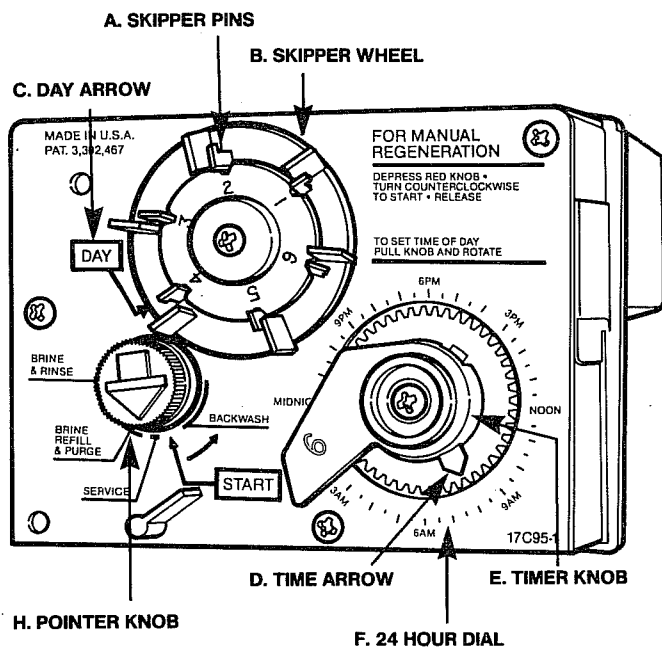

Figure 4
The following steps will require your turning the red Pointer Knob (H), (Figure 4), to various positions. Insert a wide blade screwdriver into arrow slot in Pointer Knob (H) and press in firmly. With knob held in, rotate **COUNTERCLOCKWISE ONLY** until arrow or knob points to desired position. (Rotation is made much easier if you grasp the camshaft with your free hand and turn it at the same time.) Then permit knob to spring back out.
- B. Insert screwdriver into slot in Pointer Knob (H), (Figure 4). Press in and rotate knob **COUNTERCLOCKWISE** until arrow points directly to the word **BACKWASH**.
- A. Set days of regeneration on skipper wheel (B) (Figure 4) Pull all skipper pins (A) outward (away from control). Rotate skipper wheel until day arrow (C) points to current day, or number 1. Depress skipper pin(s) (A) at day(s) for which regeneration is desired.
- B. Set the time-of-day of REGENERATION. Grasp timer knob (E) and pull outward. Rotate in either direction until actual time-of-day on time dial (F) is in line with time-of-day arrow "D" Release timer knob (E).